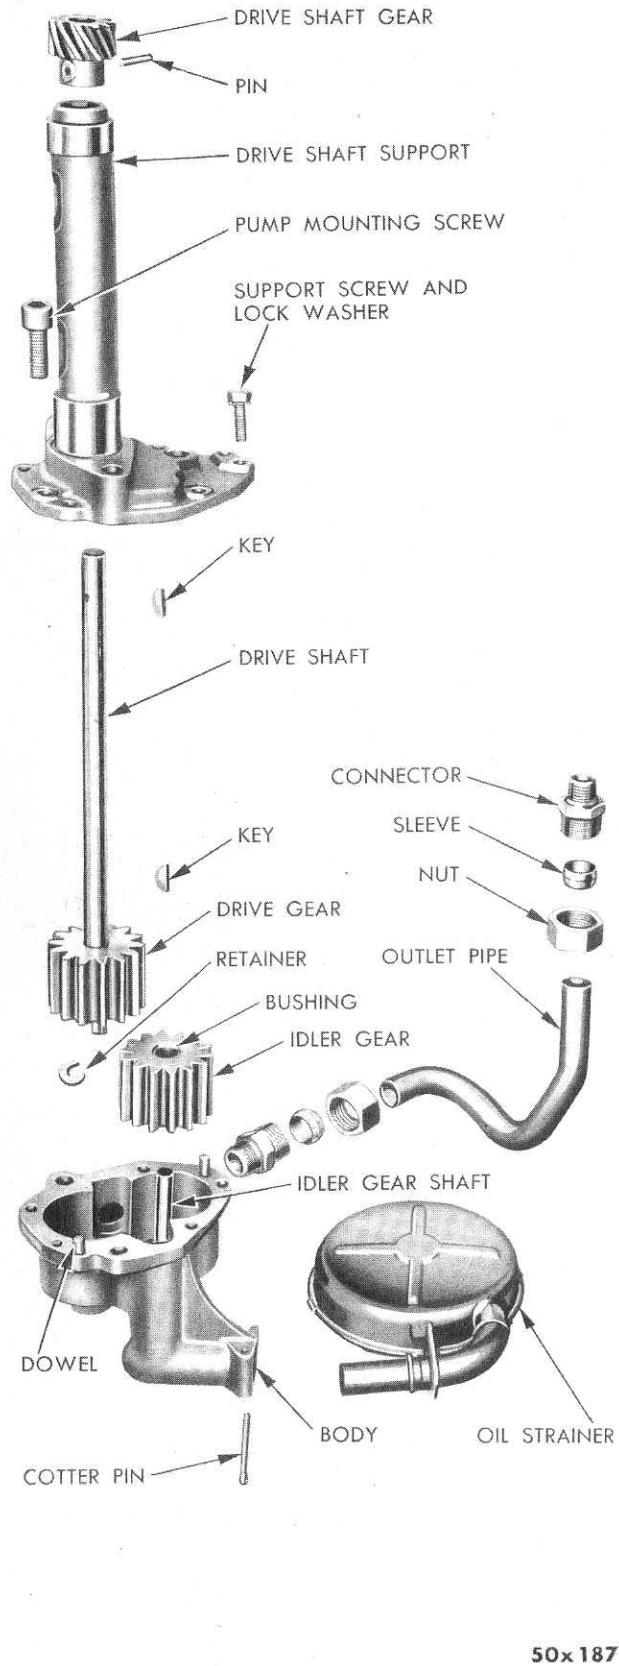

Fig. 70—Oil Pump (Disassembled View)
To remove the oil pump, refer to Figure 70, and proceed as follows:
- (4) After cleaning the pump, as described in the Note above, refer to Figure 70. Then, separate the drive shaft support and the pump body to expose the gears.
- (5) Attach a dial indicator to the drive shaft support so that the dial indicator button contacts the pump drive shaft. Move the drive shaft up and down to indicate the amount of end play on indicator. If end play exceeds .005 inch, replace the drive shaft support.
- (6) Remove the pin that secures the drive gear to the oil pump drive shaft.
- (7) Using a suitable drift, drive out the pump shaft.